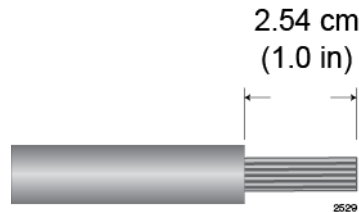

Figure 139. Stripping Solid or Stranded DC Power Wires
1. Prepare adequate lengths of two solid or stranded 8 AWG DC power wires by stripping them as shown in Figure 139.